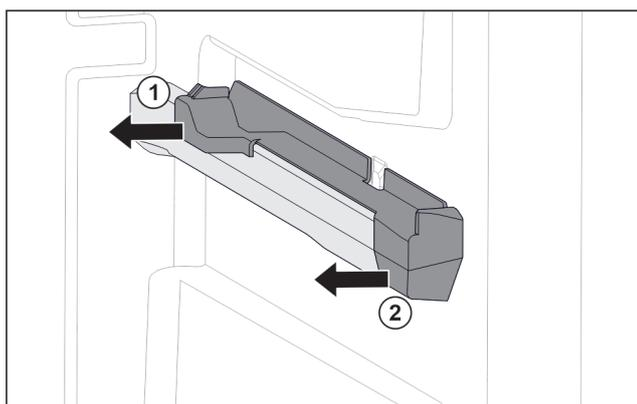

Fig. 67 Attachment on the right moulded rib
- ▶ Pull off attachment at the back sideways. Fig. 67 (1)
- ▶ Pull off attachment at the front sideways. Fig. 67 (2)